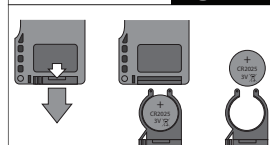

Figure 16
- c) To replace the battery of the remote control, remove the battery holder, replace the battery, and reinstall the holder as shown in Figure 16.